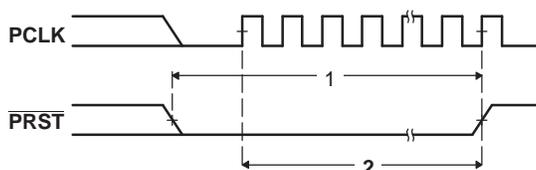

Figure 5-37. PCI Reset ( $\overline{PRST}$ ) Timing
5.11.2 Timing Requirements for PCI Reset (see Figure 5-37)